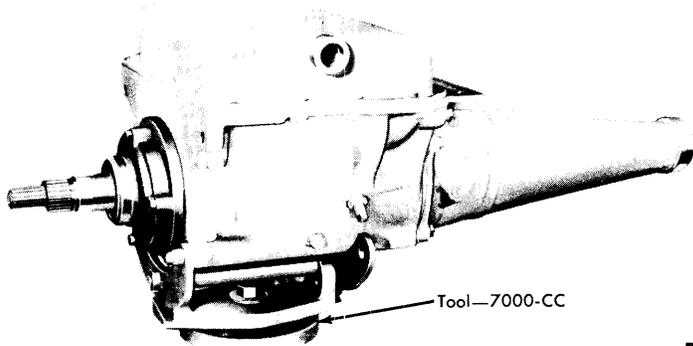

FIG. 1—Transmission Mounted on Bench
1. Remove the breather tube, and then place the transmission in a holding fixture (Fig. 1).